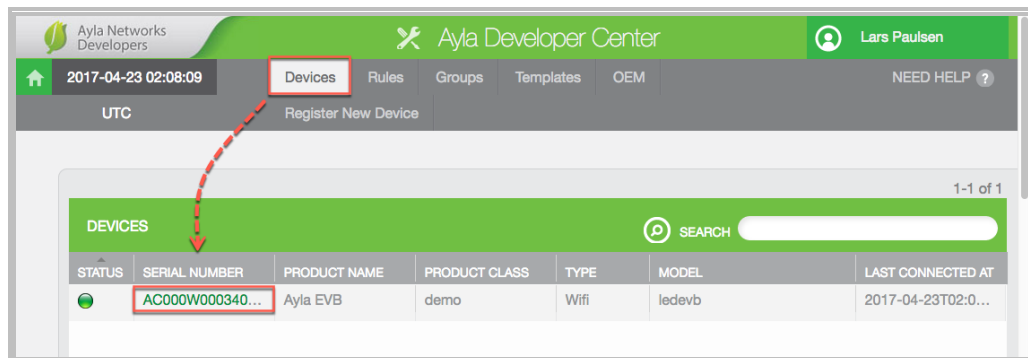

Figure 2: Device List
- After signing in, click the **Design a Device** icon, and then click the **Devices** tab to display the list of devices available for you to manage. Refer to Figure 2.
- Click the **SERIAL NUMBER** of the device for which you want to enable setup mode, as shown in Figure 2 above. This displays the PROPERITES page for the selected device.